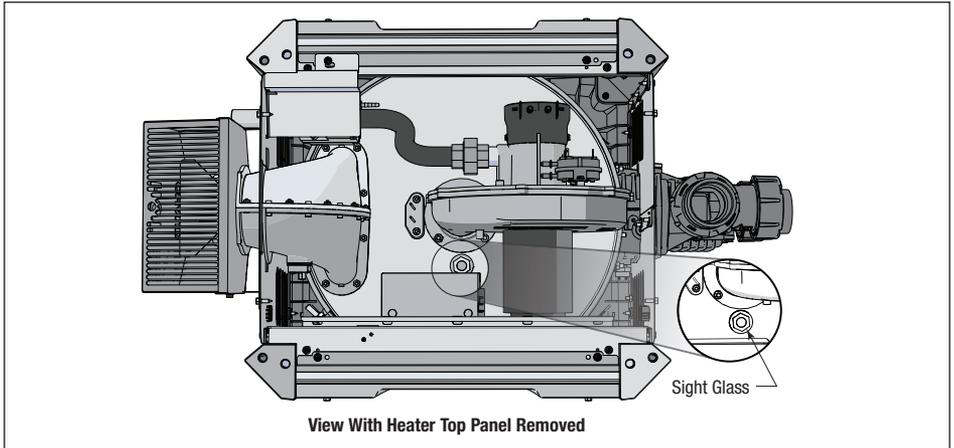

Figure 35. Remove Heater Top to View Sight Glass
- Visually check the main burner flame. Remove the top of the heater to inspect the sight glass. See *Figure 35*.